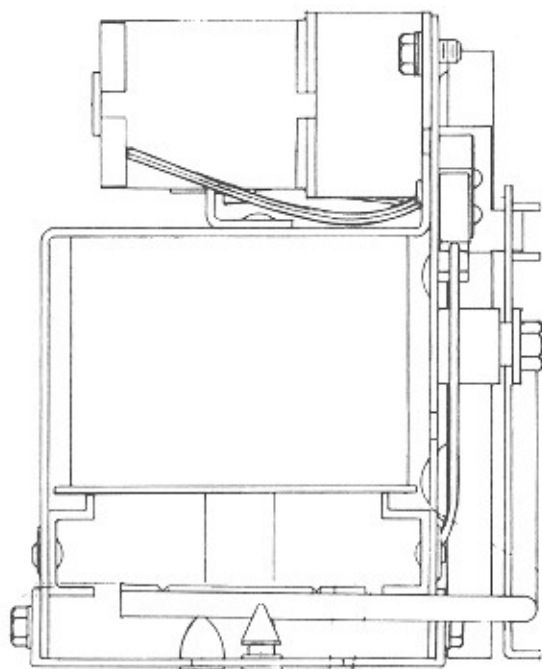

Figure 4-1. Pusher Plate Adjustment
3. Align the pusher plate to the guide rails by loosening the three motor bracket screws and moving the motor assembly. The pusher plate and the guide must be positioned within 1/64 inch as shown in Figure 4-1.).